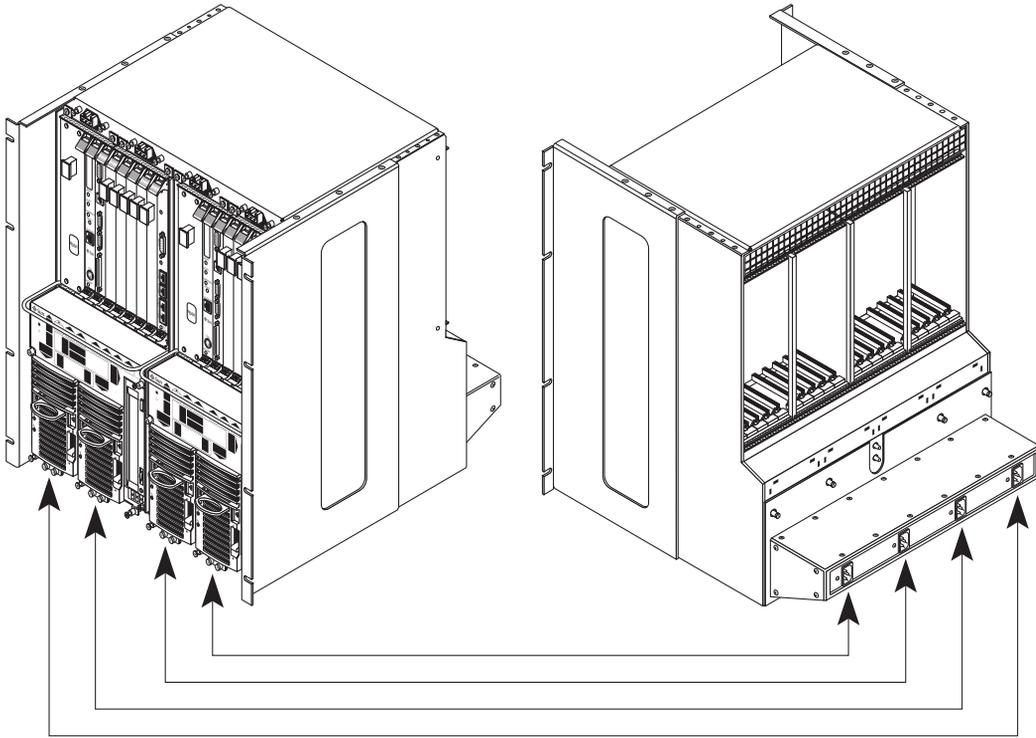

FIGURE 2-9 Matching AC Power Supply Units to AC Connectors
- If you want to disconnect power only to certain Netra CT servers installed in a chassis or to a specific power supply unit in a server, determine which AC connectors at the rear of the chassis supply power to the power supply unit(s) in the Netra CT servers. FIGURE 2-9 shows how to match the AC connectors at the rear of the chassis to the power supply units in the Netra CT servers. Note that if you want to disconnect all power to a Netra CT 810 server, you must determine which AC connectors supply power to the two AC power supply units in the Netra CT 810 server and unplug both of those AC cables from the AC connectors.